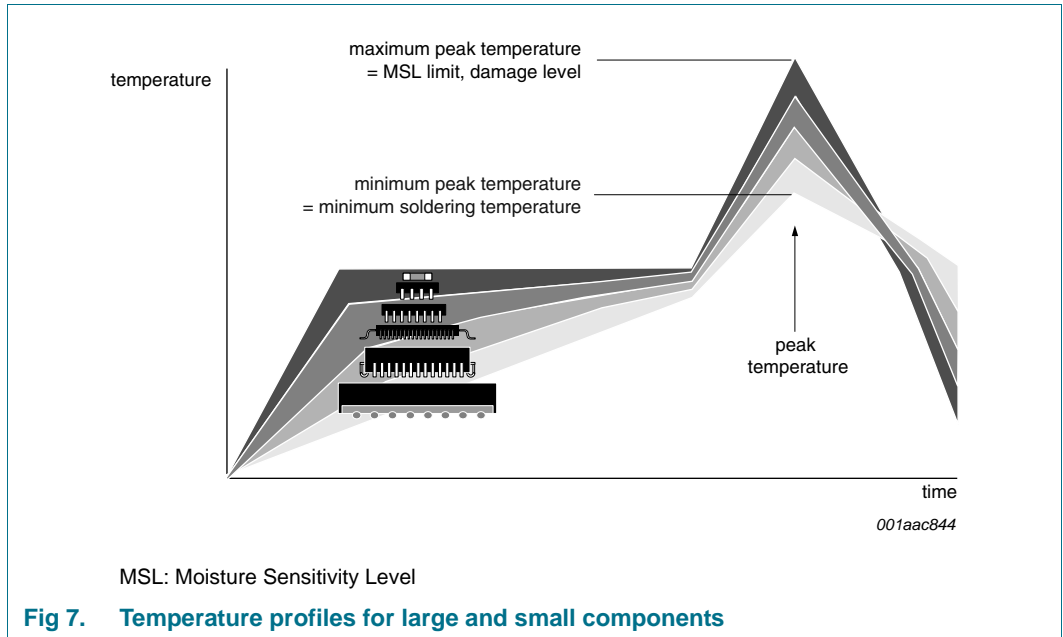

Fig 7. Temperature profiles for large and small components
- Lead-free versus SnPb soldering; note that a lead-free reflow process usually leads to higher minimum peak temperatures (see Figure 7) than a SnPb process, thus reducing the process window
Studies have shown that small packages reach higher temperatures during reflow soldering, see Figure 7.